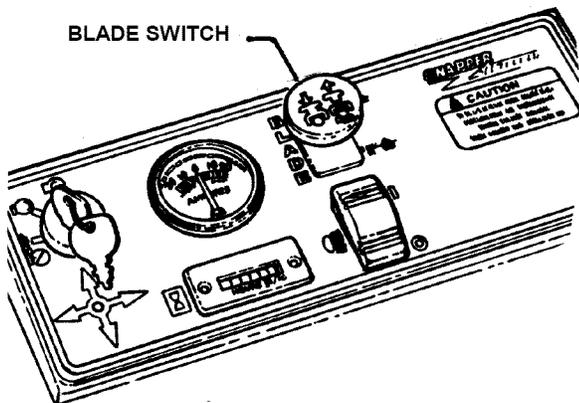

FIGURE 2.2
2.1.4. Check Blade switch to insure it works freely. Switch is pulled "OUT" for blade engagement or pushed back "IN" for blade disengagement. See Figure 2.2. **IMPORTANT:** Disengagement stops blades.
3. Push blade switch in to "OFF", blades disengaged position and engage parking brake. See Figures 2.2 and 2.6.
2. Pull the Blade Switch out to the "ON" position to engage the mower blades. See Figure 2.2.